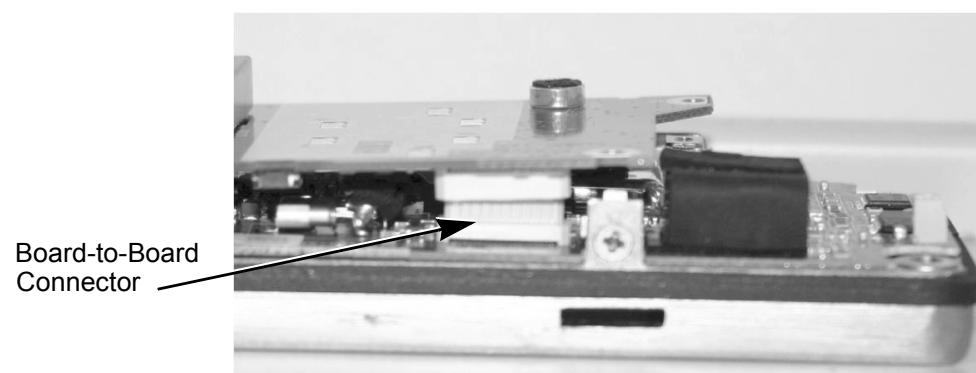

Figure 2-5.
2. Remove the control board which is connected to the RF board through a board-to-board connector (See Figure 2-5).